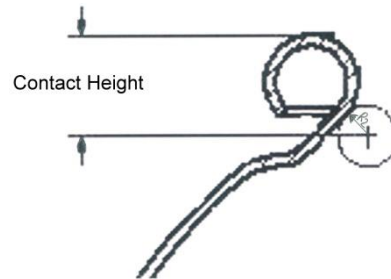

Figure 3 – Contact Height
2. Contact Height (CH): The CH is the distance from the top of the can curl to the center of a ball of radius  $R_2$  that touches the inside of the can dome tangent to the dome at the Point of Hard Contact (see Figure 3). This will be further explained in the section entitled “Establishing the Required Crimp Dimensions”.